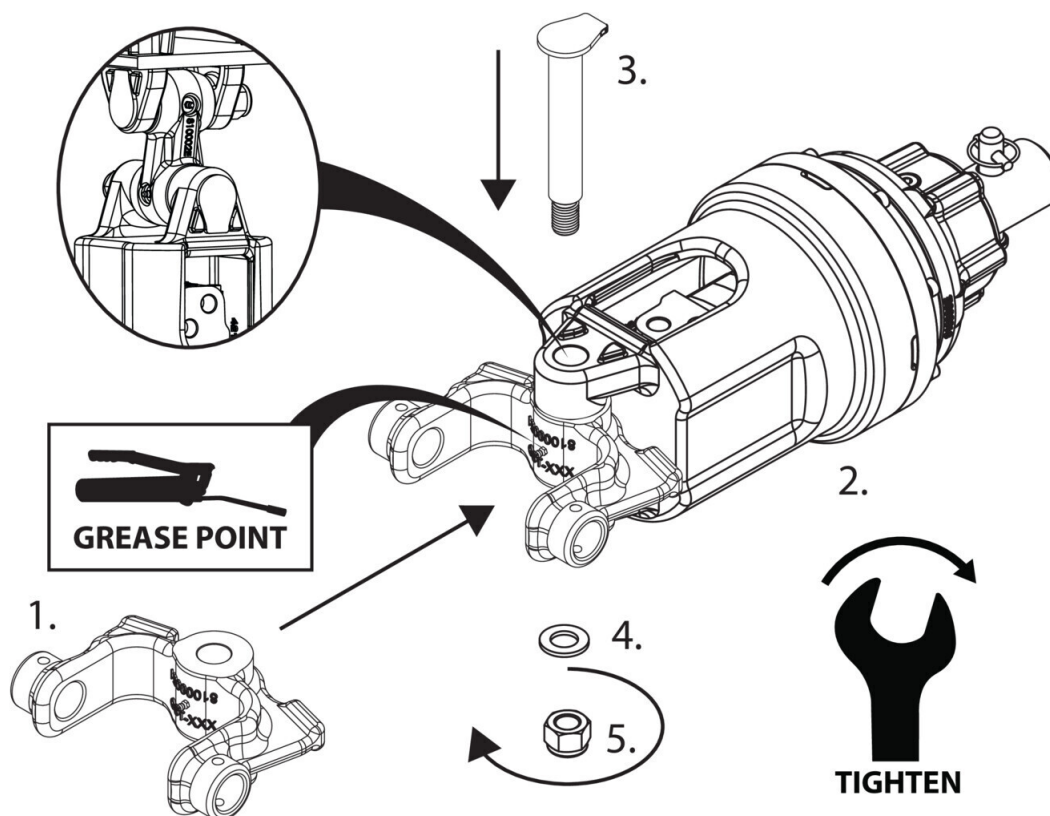
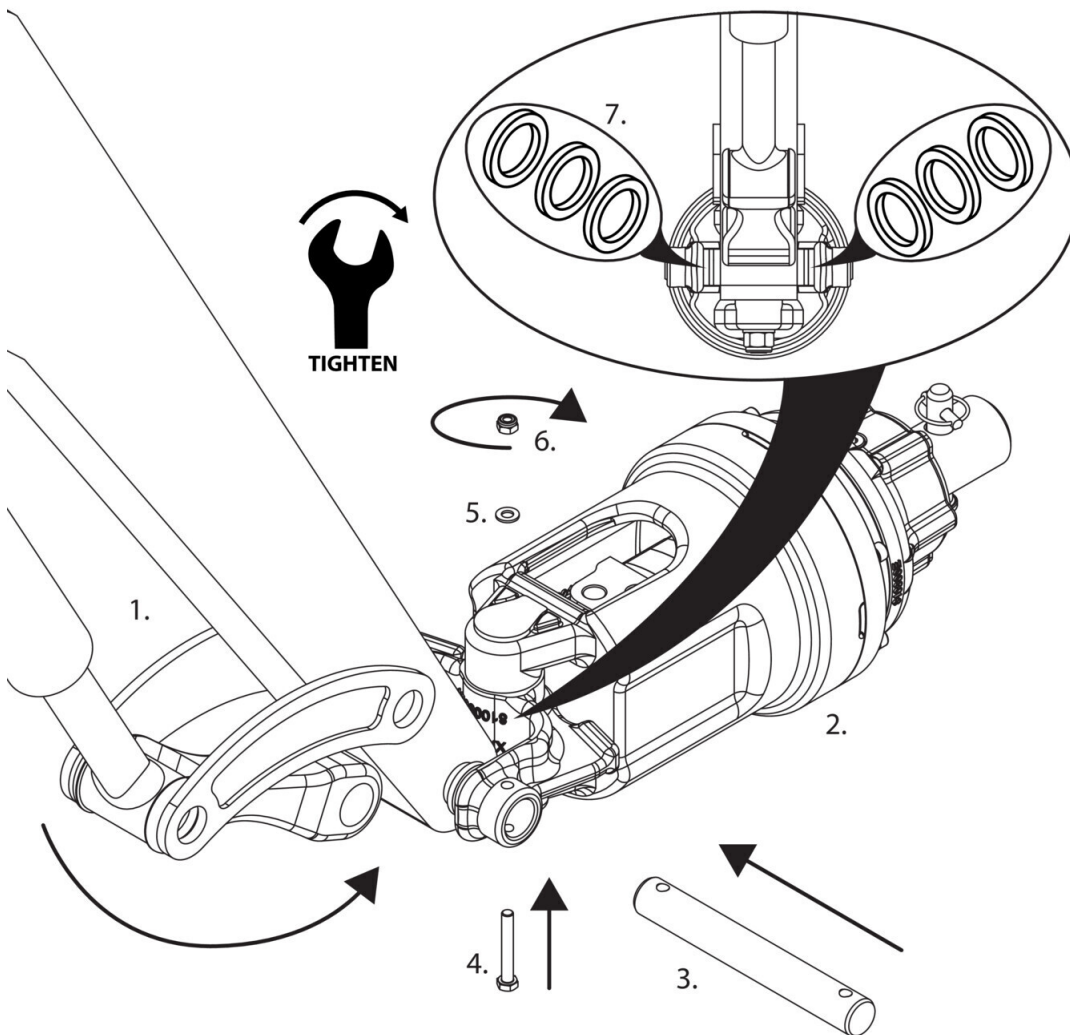

Fig. 6
Fig. 7
Insert item 1. into item 2. **Fig.6.** Insert item 3. Fit item 4. and 5. Tighten item 5. to 60-80Nm (44-59ft-lb). Lubricate using greasing point.
The single pin mount is supplied with gap filling spacer washers, item(s) 7 **Fig.7**.
Spacer washers should be used to minimise gaps between item 1. **Fig.6** and item 1 **Fig.7**.
An equal number of spacers should be used each side of item 7. **Fig.7** .
Affix with Item 4., 5. and 6. (2 places) Tighten to 20-25 Nm (14-18 ft-lb), 2 places. **Fig.7**.